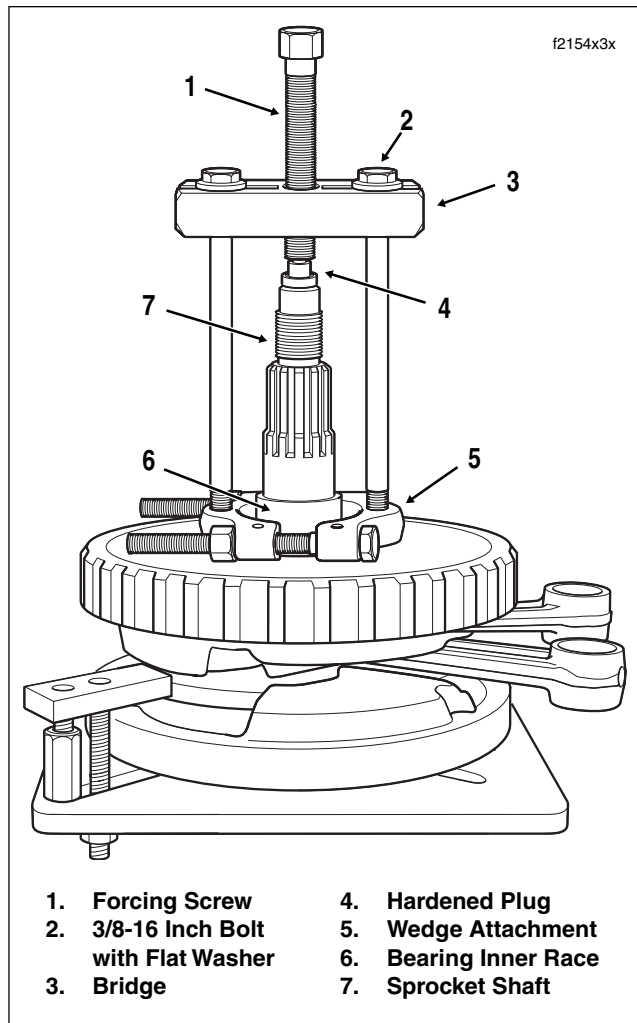

Figure 3-128. Remove Inner Race From Sprocket Shaft
- m. Verify that the tool assembly is square, so that the bearing inner race is not cocked during removal. See Figure 3-128.